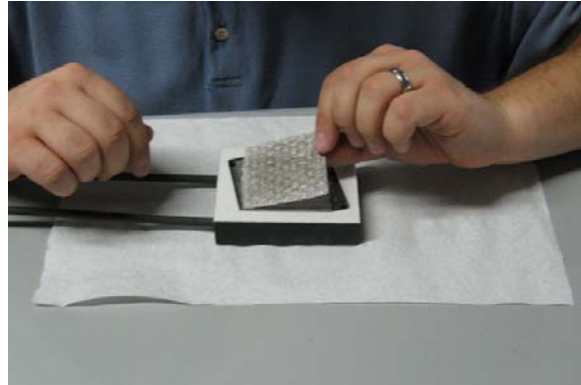

Figure 5
5. Place Ni mesh on active area of anode manifold and lightly press into place (Figure 5)